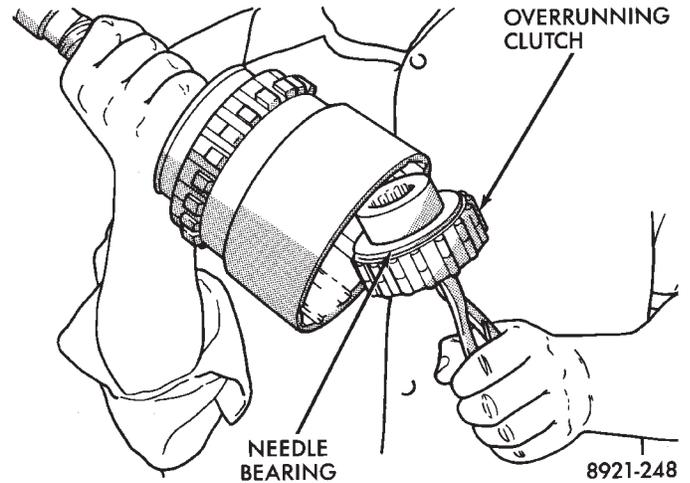

Fig. 228 Overrunning Clutch Assembly Removal/Installation
- (3) Remove overrunning clutch assembly with expanding type snap ring pliers (Fig. 228). Insert pliers into clutch hub. Expand pliers to grip hub splines and remove clutch with counterclockwise, twisting motion.
- (4) Remove thrust bearing from overrunning clutch hub.
- (5) Remove overrunning clutch from hub.